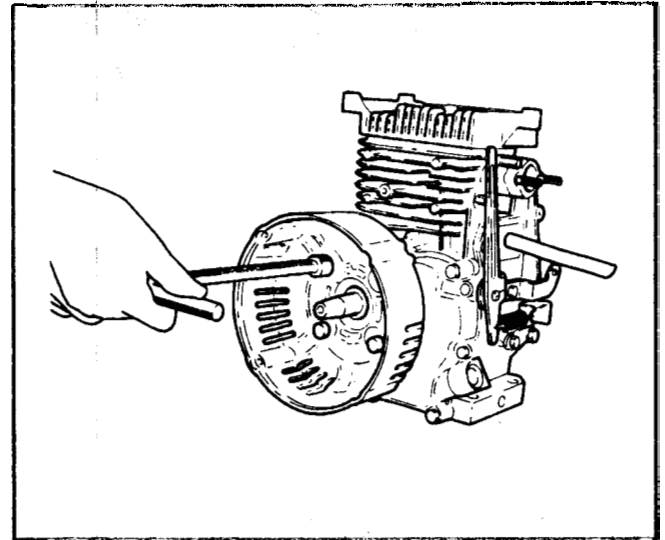

Figure 71
29. Turn the engine around and remove the front generator housing. See Figure 71.